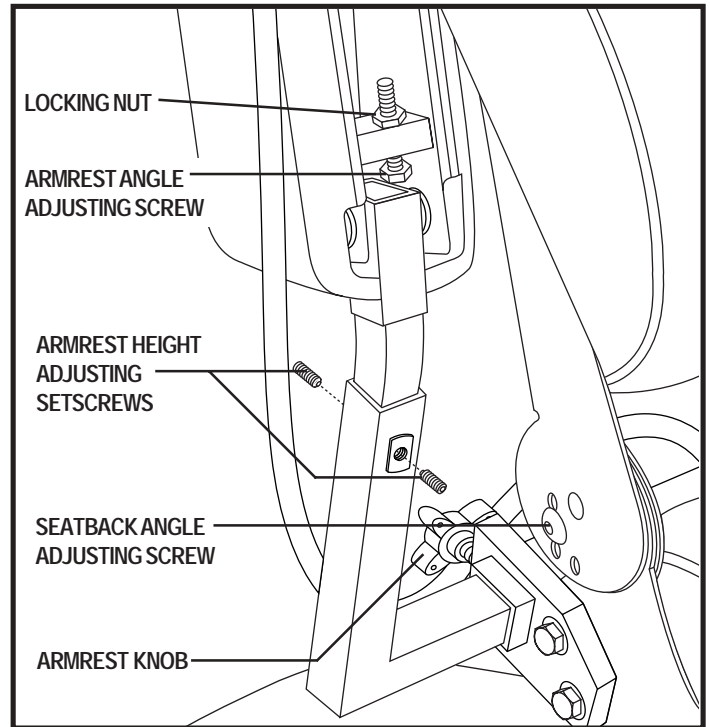

Figure 15. Seatback/Armrest Adjustment
1. Remove the adjusting screws from each seat hinge. See figure 15.
1. Locate the two armrest knobs on each side of the armrest receiver bracket. See figure 15.
1. Lift the armrest straight up so that it is perpendicular to the floor. See figure 15.
1. Loosen the two setscrews located on the armrest receiver. See figure 15.